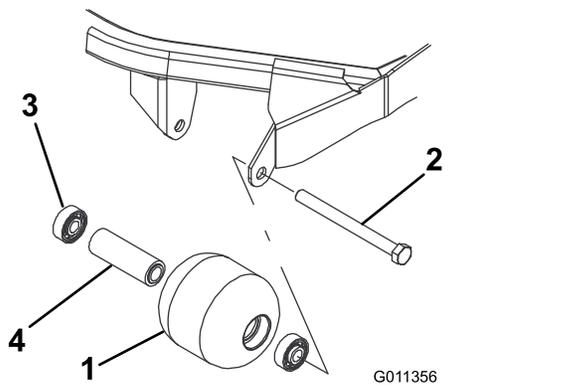

Figure 94
1. Remove the roller-mounting bolt (Figure 94).
4. Inspect the roller housing, bearings, and bearing spacer for damage (Figure 94). Replace any damaged components and assemble them.
1. Press the first bearing into the roller housing (Figure 94). Press on the outer race only or equally on the inner and outer race.
2. Insert the spacer (Figure 94).
3. Press the second bearing into the roller housing (Figure 94). Pressing equally on the inner and outer race until the inner race contacts the spacer.